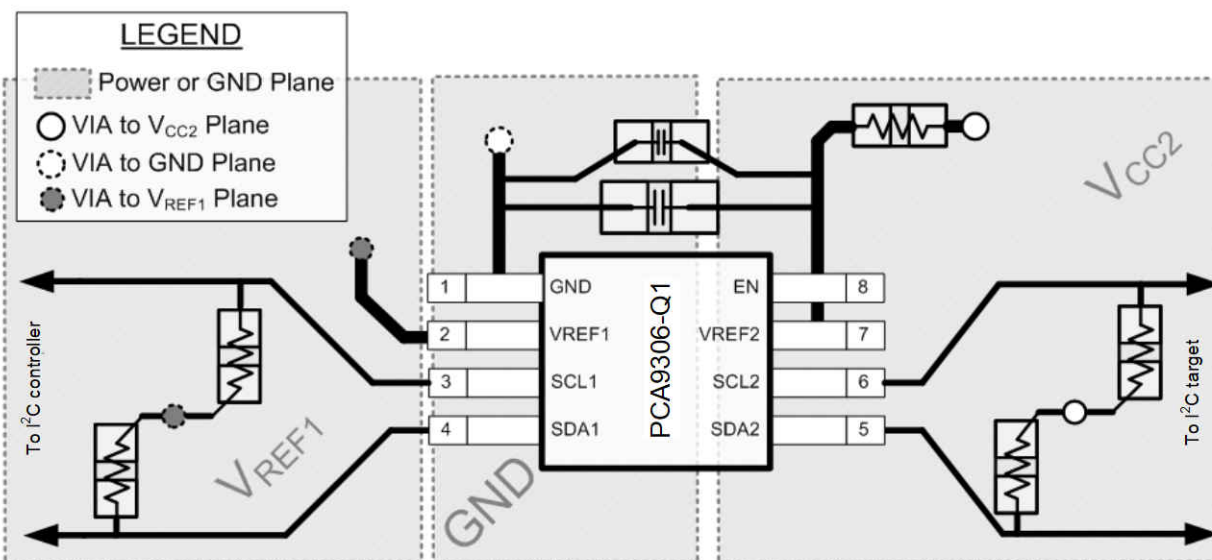

Figure 12-1. PCA9306-Q1 Layout Example
In all PCB layouts, it is a best practice to avoid right angles in signal traces, to fan out signal traces away from each other upon leaving the vicinity of an integrated circuit (IC), and to use thicker trace widths to carry higher amounts of current that commonly pass through power and ground traces. The 100-pF filter capacitor must be placed as close to V_{REF2} as possible. A larger decoupling capacitor can also be used, but a longer time constant of two capacitors and the 200-kΩ resistor results in longer turnon and turnoff times for the PCA9306-Q1 device. These best practices are shown in Figure 12-1.
For the layout example provided in Figure 12-1, it would be possible to fabricate a PCB with only two layers by using the top layer for signal routing and the bottom layer as a split plane for power (V_{CC}) and ground (GND). However, a four-layer board is preferable for boards with higher-density signal routing. On a four-layer PCB, it is common to route signals on the top and bottom layer, dedicate one internal layer to a ground plane, and dedicate the other internal layer to a power plane. In a board layout using planes or split planes for power and ground, vias are placed directly next to the surface-mount component pad, which must attach to V_{CC} or GND, and the via is connected electrically to the internal layer or the other side of the board. Vias are also used when a signal trace must be routed to the opposite side of the board, but this technique is not demonstrated in Figure 12-1.